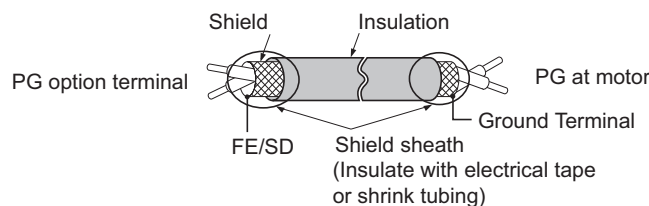
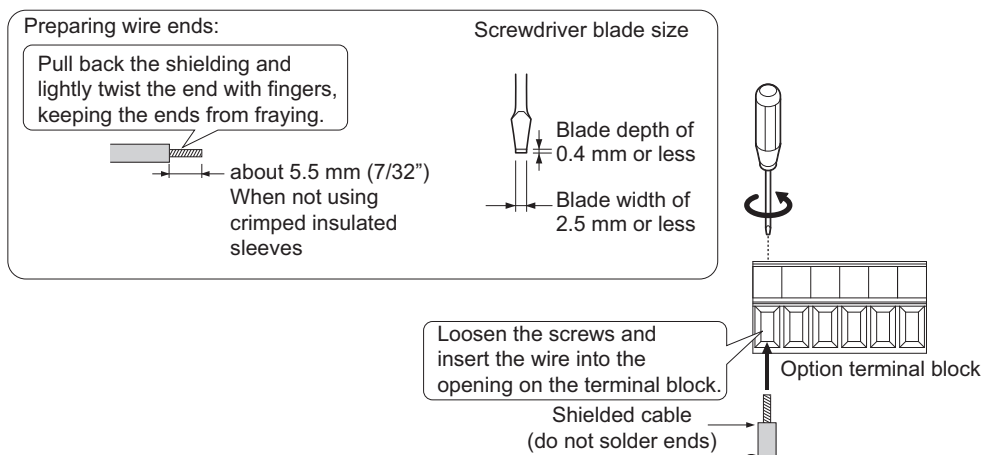

Figure 8.6 Preparing Ends of Shielded Cable
Figure 8.7 Preparing and Connecting Cable Wiring
2. There are two screw holes on the drive for use as ground terminals (I). When connecting three options, two ground wires will need to share the same drive ground terminal.
4. Prepare and connect the wire ends as shown in Figure 8.6 and Figure 8.7. Refer to Wire Gauges and Tightening Torques on page 431 to confirm that the proper tightening torque is applied to each terminal. Take particular precaution to ensure that each wire is properly connected and wire insulation is not accidentally pinched into electrical terminals.